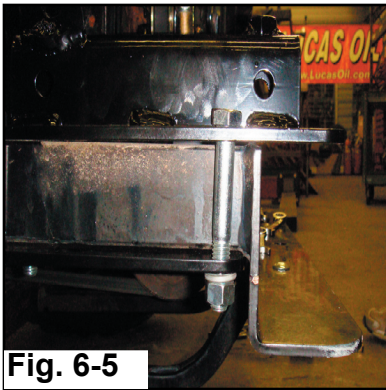

Fig. 6-5
- On the 72" diesel, the receiver bracket will stick out past the hitch two inches (Fig. 6-5).